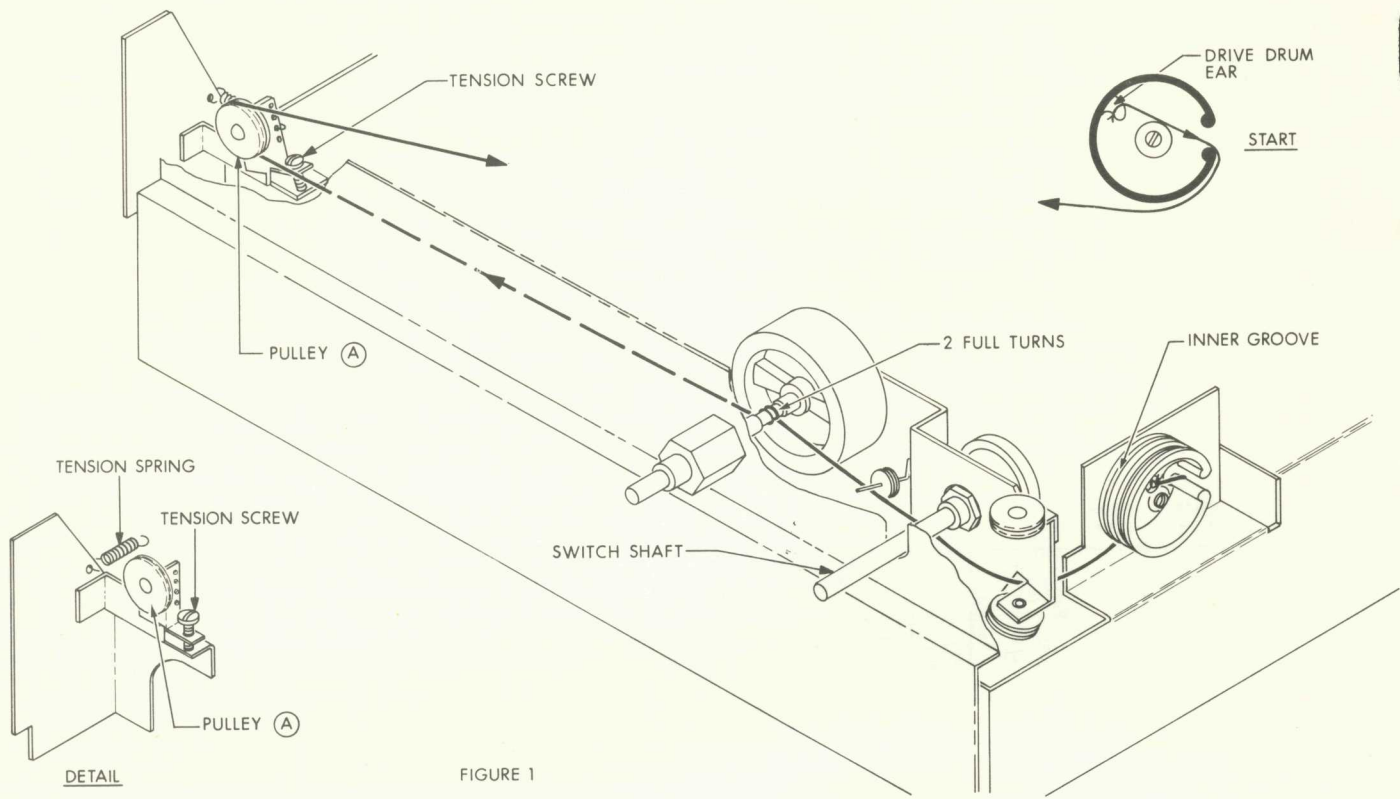

FIGURE 1
- Turn the tension screw to its mid-position (Figure 1) and remove the end of the tension spring from pulley A mounting bracket (detail view).